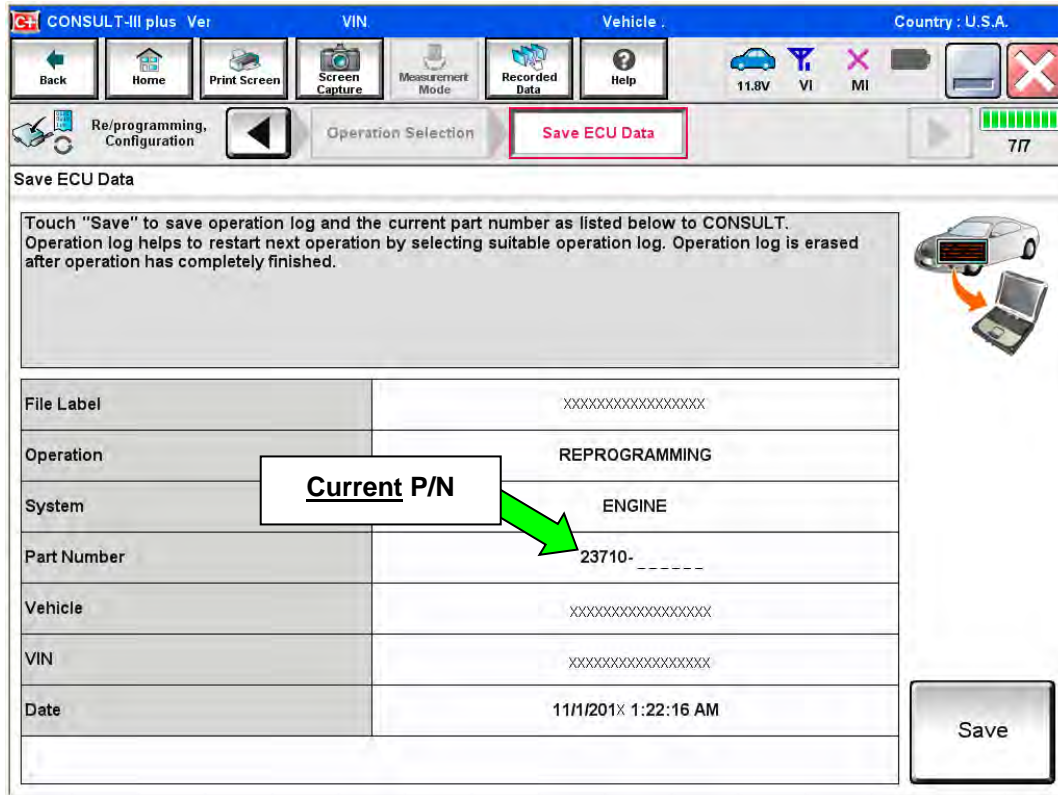

Figure 2
5. Follow the C-III plus on-screen instructions and navigate to the screen shown in Figure 2 on the **next page**.
6. When you get to the screen shown in Figure 2, confirm this bulletin applies as follows: